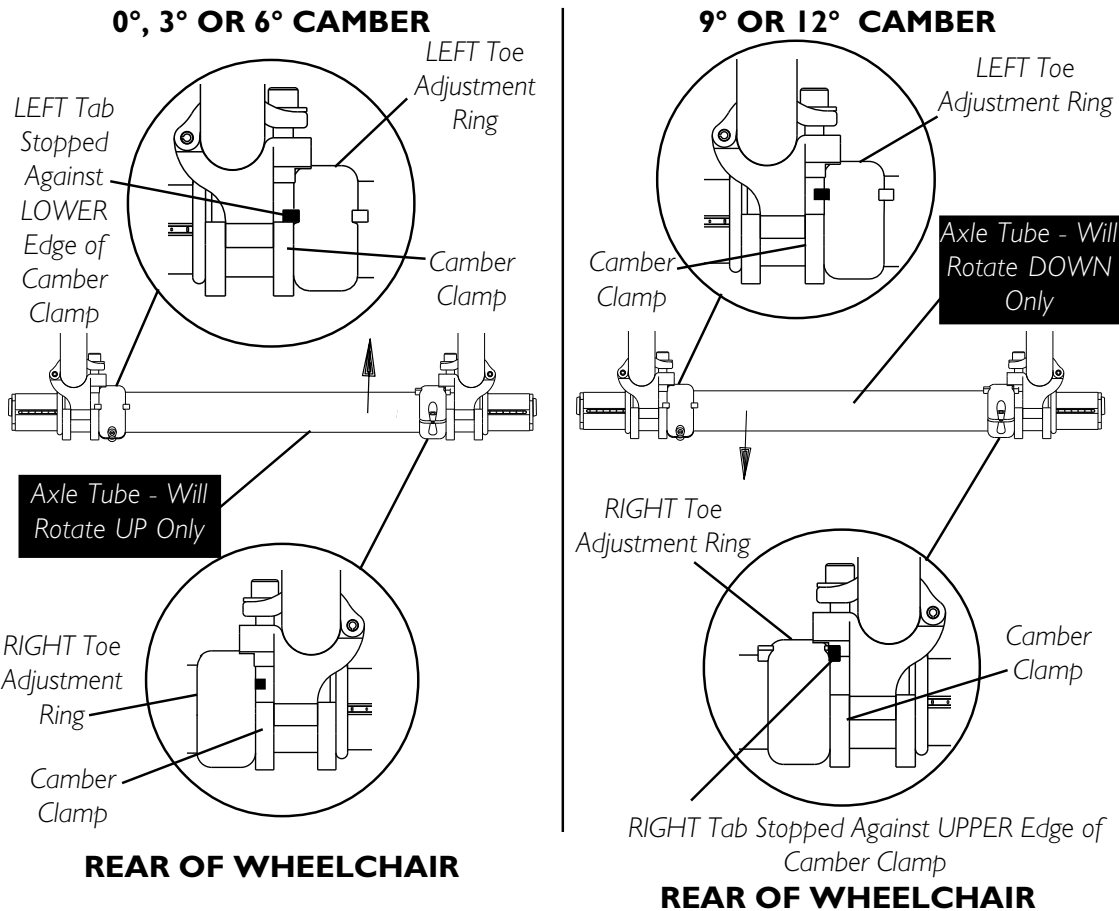

FIGURE 7 - ADJUSTING TOE IN/TOE OUT
AXLE TUBE POSITIONING FOR 0°/3°, 0°/6°, 3°/6° OR 9°/12° CAMBER INSERTS (FIGURE 7)
NOTE: Refer to FIGURE 7 for a description of a locked out axle tube.
AXLE TUBE POSITIONING FOR 0°/9°, 0°/12°, 3°/9°, 6°/9°, 3°/12° OR 6°/12° CAMBER INSERTS (FIGURE 7)
2. Slowly rotate the axle tube until the tab on the LEFT toe adjustment ring is stopped against the LOWER edge of the camber clamp (FIGURE 7).
2. Slowly rotate the axle tube until the tab on the RIGHT toe adjustment ring is stopped against the UPPER edge of the camber clamp (FIGURE 7).